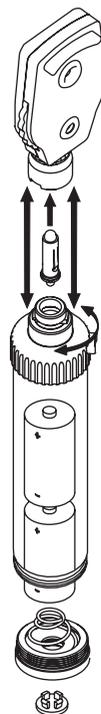
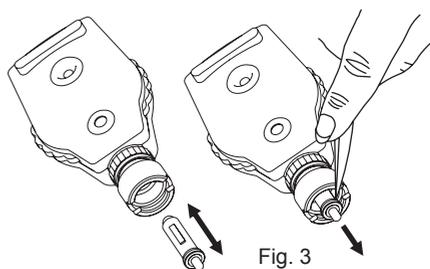

Fig. 2
Fig. 3
Before using, thoroughly check the product and accessories (if provided) the same operation shall be carried out after cleaning. If the light is intermittent or in case it does not turn on, check the bulb, the batteries and the electric contacts. In case the lamp stops working, it is possible to replace it with original spare lamp. To replace the lamp, follow lamp replacement instructions see fig.3 also.
Battery handle shell not be dipped into water. Remove battery components while cleaning. Periodically check the battery condition, making sure that no sign of corrosion or oxidation is present, in case they have to be replaced, it is highly recommended to use new alkaline ones. For battery replacement see fig.2.
Remove Ophthalmoscope head as advised in operating procedure (See fig.2) . Grasp the end of lamp and pullout (use nailfile or similar object if necessary) (See fig.3) Insert replacement lamp by carefully aligning pin on lamp shaft with slot in Ophthalmoscope head. Push the lamp until firmly seated.
- Once opened, insert the batteries paying attention to the direction of poles (see fig.2).